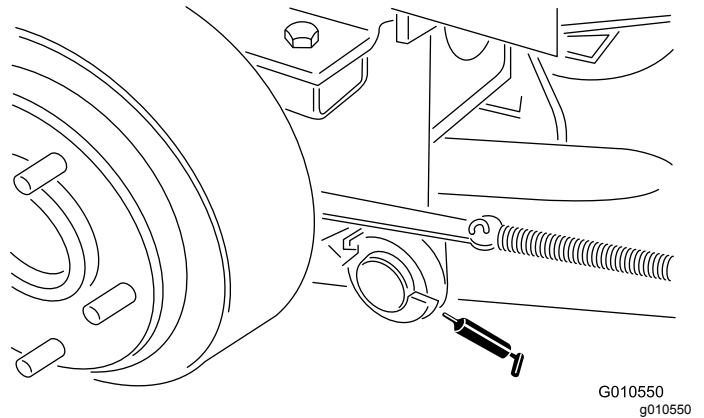

Figure 23
- Lift arm pivots, rear (2) (Figure 23)